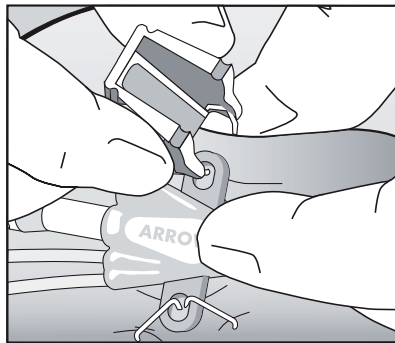

Fig. 15
- Pass staple point through eye of access device suture hub (refer to Fig. 15).